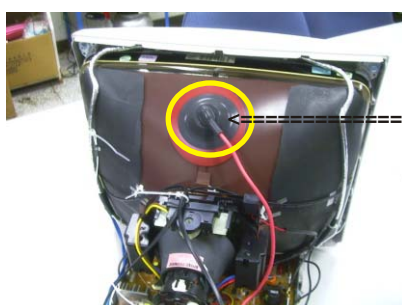

Fig. 8
- Disconnect the Hi-Pot cap from CRT as shown in Fig. 8..